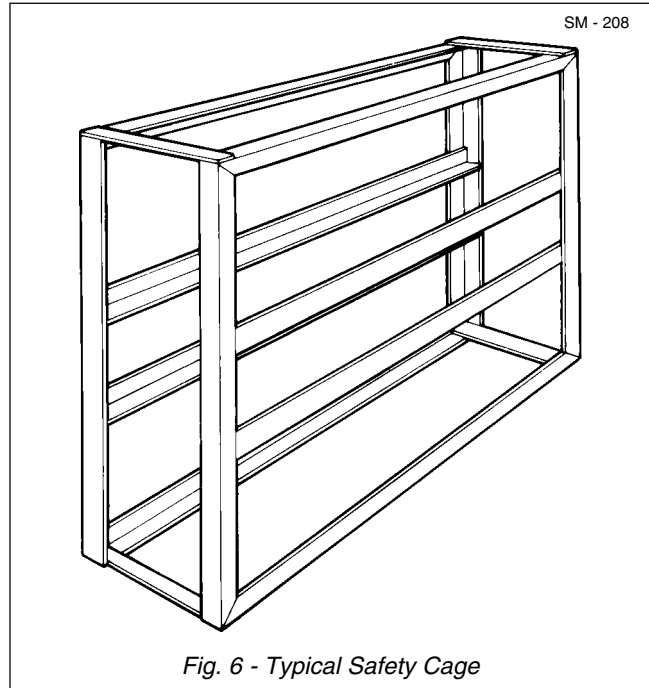

Fig. 6 - Typical Safety Cage
2. If the tyre is off the machine, place it in a safety cage after initially inflating to 1 bar (15 lbf/in²) to seat components. See Fig. 6.